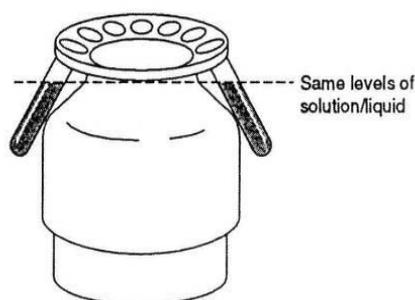

Figure T.11i Balance the centrifuge by placing tubes with equal volumes of liquid opposite each other inside the metal sleeves of the rotor.
- *Always* operate the centrifuge with an *even* number of centrifuge tubes containing equal volumes of liquid placed opposite one another in the centrifuge. This *balances* the centrifuge and eliminates excessive vibration and wear. If only one tube needs to be centrifuged, balance the centrifuge with a tube containing the same volume of solvent (Figure T.11i).